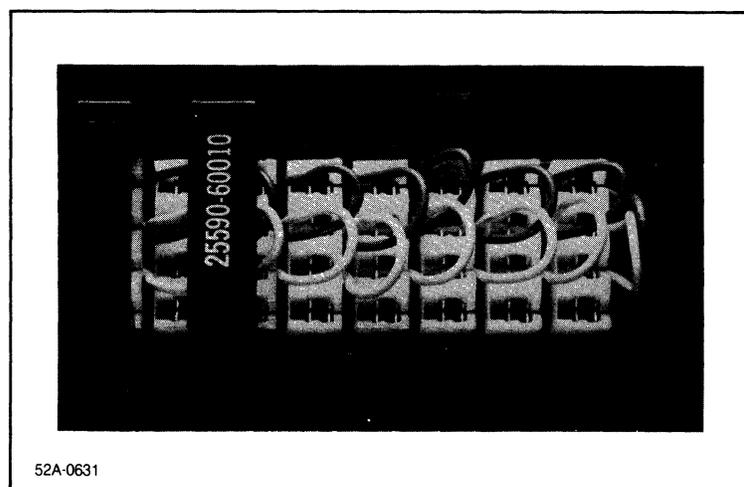

Figure 5-3. Shorting connector
- 2) A shorting connector (part number 25590-60010), as pictured in figure 5-3.
- 1) Short the inputs of the first channel of the HLMUX card. This involves connecting the HIGH, LOW, and GROUND pins for the channel. This is most easily done with the shorting connector (part number 25590-60010) shown in figure 5-3. Connect the shorting connector to the first block of eight channels on the card, just as though you were connecting a field wiring cable. (You don't have to use the shorting connector if you don't want to; it's just an awful lot easier than trying to fit alligator clips into that tiny area.)